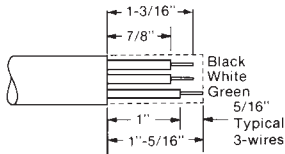

Figure 3
- Strip cord sheath and wire insulation according to dimensions shown in Figure 3. Be careful not to damage individual conductors or their insulation.